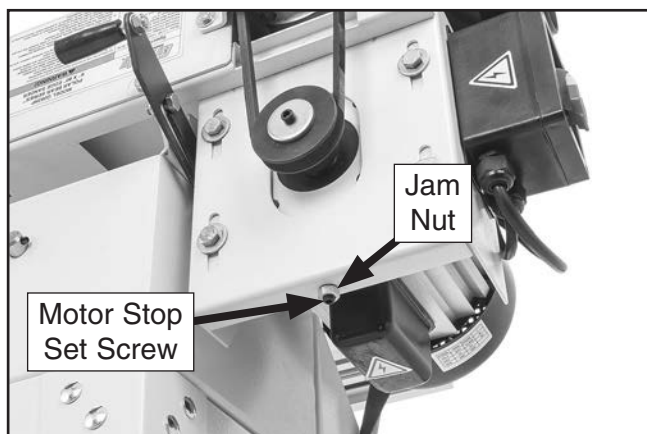

Figure 56. Motor stop set screw and jam nut location.
6. Loosen jam nut on motor stop set screw (see **Figure 56**).
8. Press down on motor to keep tension on belt and tighten jam nut on motor stop set screw (see **Figure 56**).